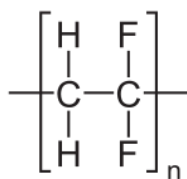

Figure Q3: Repeating unit of PVDF.
3. Polyvinylidene fluoride (PVDF) is a semi-crystalline thermoplastic fluoropolymer, with the chemical structure shown in Figure Q3.